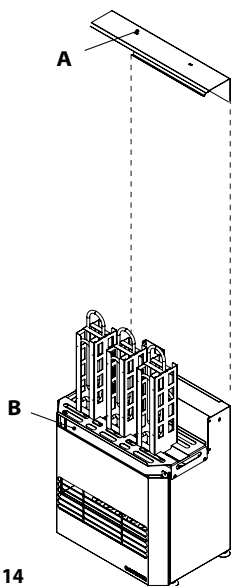

Figure 14
1. Install the hot air intake cap (**Fig. 14, A**) and center the heater housing in relation to the cap (**Fig. 14, B**).